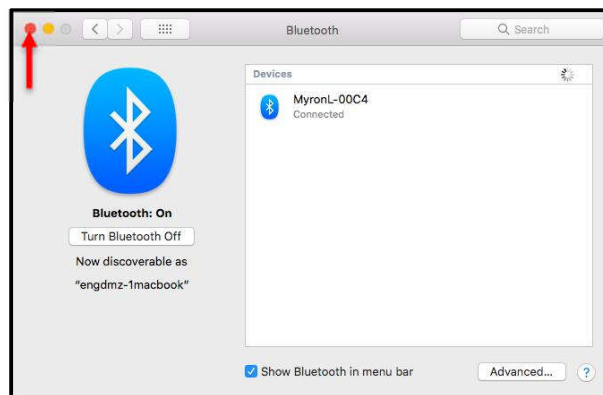

Figure 20
- 8) Click the Red button shown by the arrow in Figure 20 to exit.